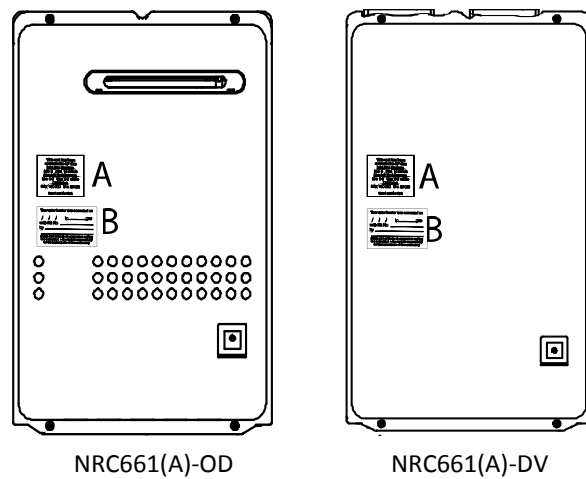

FIGURE 10
- 3) Place the sticker indicating the new inlet and manifold pressures on the front cover near the rating plate as indicated by "A" in Figure 10. ***For water heaters certified for use in Canada place French sticker with new pressures next to English sticker. .**
- 4) Fill out the required information on the remaining sticker indicating the date, gas type, kit number, and name of the company performing the conversion. Place this sticker on the front cover as indicated by "B" in Figure 10. Do not to cover any existing markings. ***For water heaters certified for use in Canada place French sticker with agency information next to English sticker.**